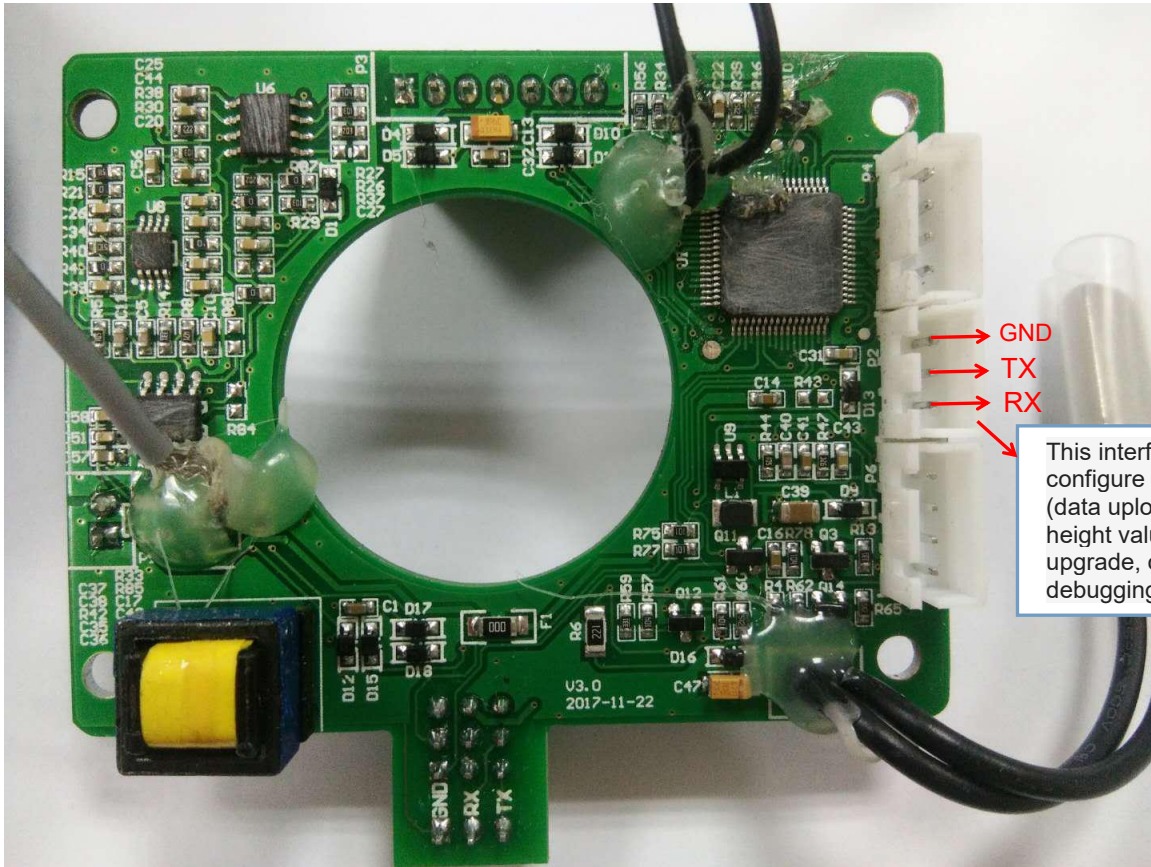

Figure4.2
- 4.2 Reverse side of picture of PCB board (open the Screws of PCB Board) as shown in figure 4.2.